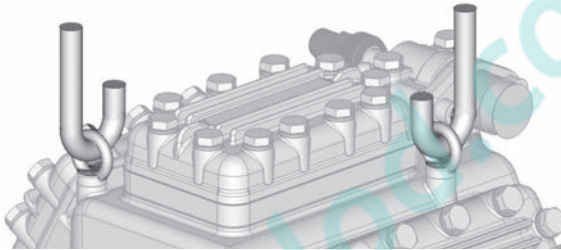

Fig. 8
- Transport and suspension unit on both eyebolts (Fig. 8).